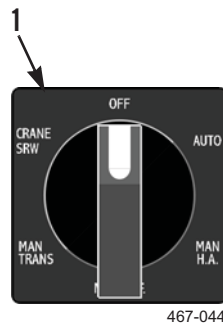

Figure 14. MODE Switch at OFF.
13. With engine at idling speed, set MODE switch (Figure 14, Item 1) to OFF.